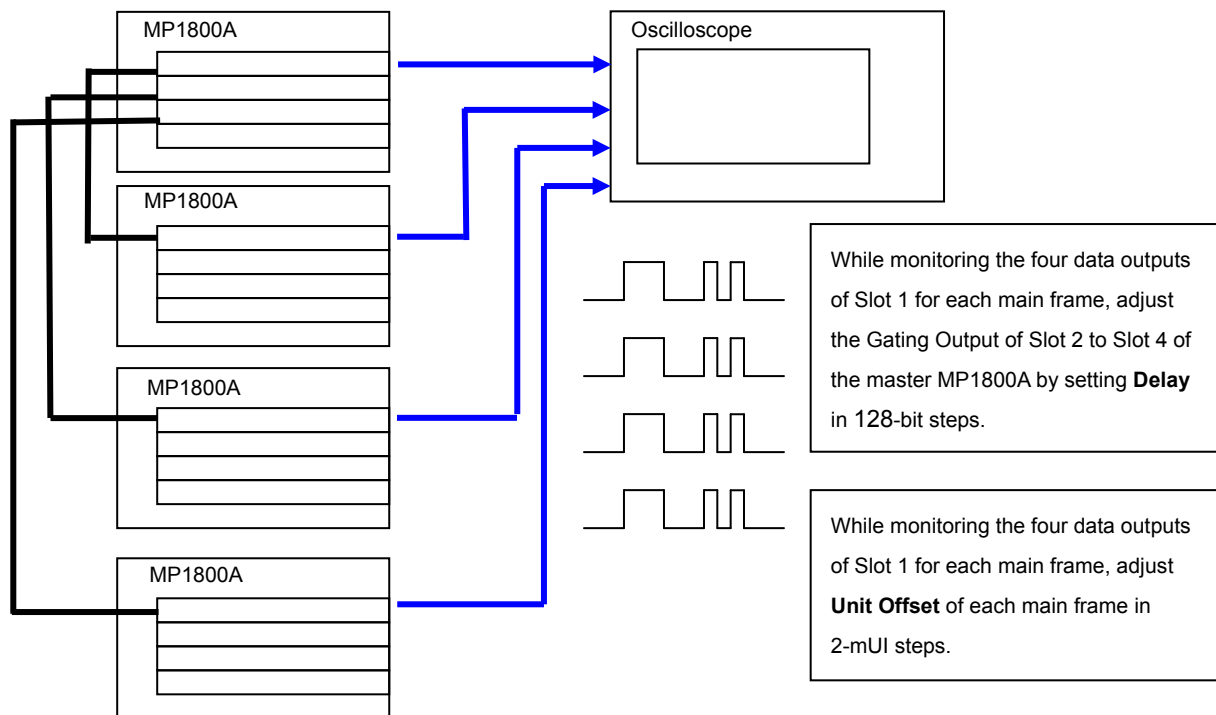
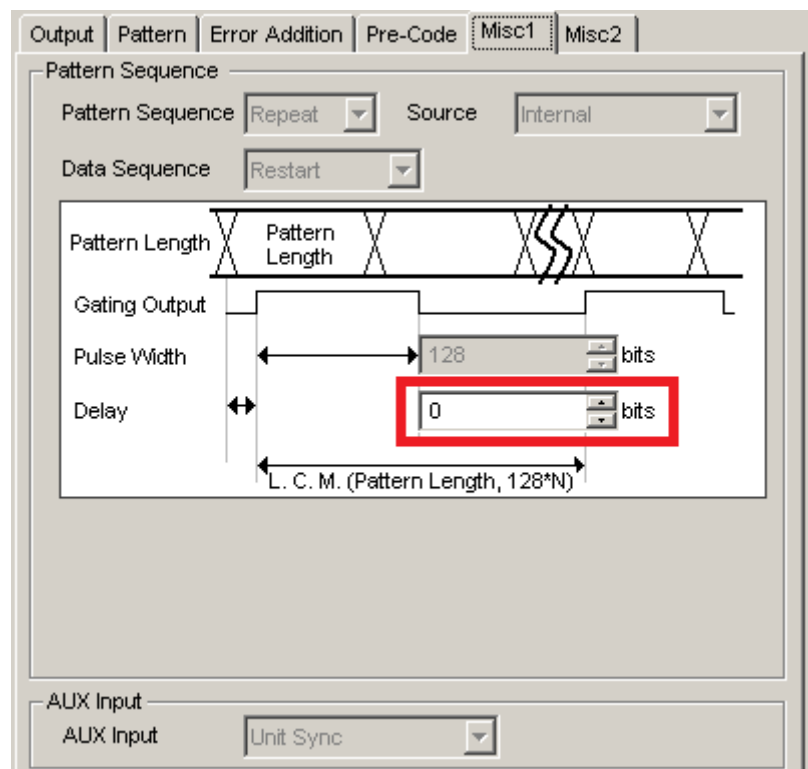
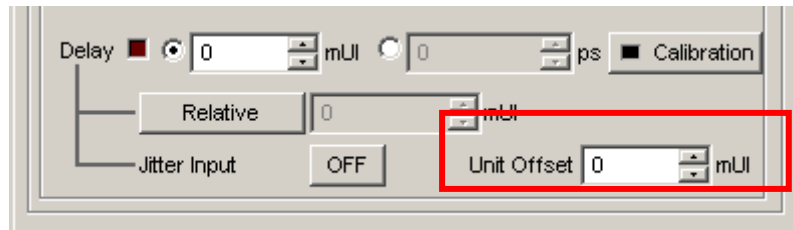

Figure E.1.2-3 Adjusting Output Pattern between Main Units
Figure E.1.2-4 Gating Output Delay Setting Screen
Figure E.1.2-5 Unit Offset Setting Screen
5. Set the signal delay time output from the Gating Output of the MU183020A in Slot 2 to Slot 4 of the master MP1800A using the **Delay** setting at **Pattern Sequence** of the **Misc1** tab for each slot, and then press the **Unit Sync Output**. At this time, adjust the Delay value to minimize the bit drift using while monitoring the data output of Slot 1 of each main frame with an oscilloscope. Refer to Figure E.1.2-3 and Figure E.1.2-4.
6. While monitoring the data of Slot 1 of each main frame with an oscilloscope, use the **Unit Offset** setting of the **Output** tab for any of Slot 1 to Slot 4 of each main frame to minimize the bit drift. Refer to Figure E.1.2-3 and Figure E.1.2-5.